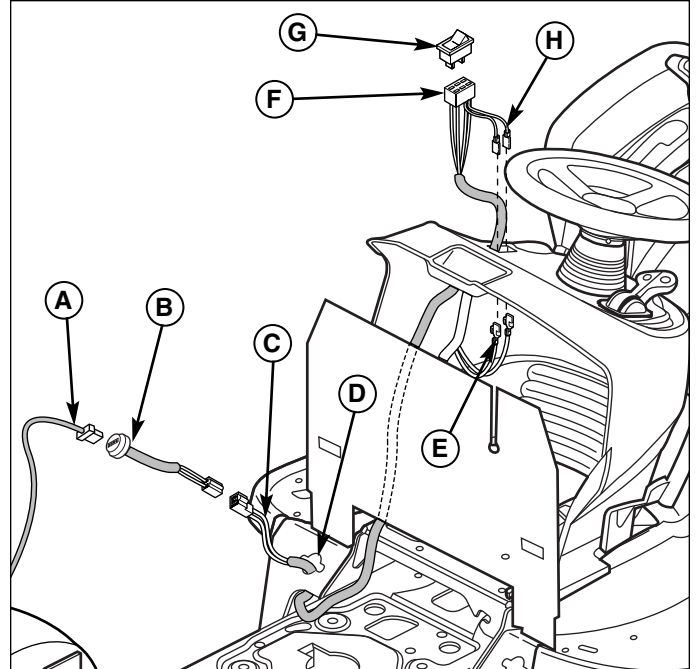

Figure 15. Install Power Port & Switch
2. Route the switch harness (C, F, Figure 15) through the frame and dashboard as shown.
3. Install the switch (G) in the dashboard and connect the upper end of the switch harness (F) to it.
4. Connect the red/yellow power lead (H) to the red/yellow tractor harness lead (E). Connect the black power lead to the black tractor harness lead.
5. Mount the trailer plug socket (B) in the frame at location (D). Connect the trailer plug lead (B) to the lower switch harness connector (C).
6. Do not connect the snowthrower wire harness (A) at this time.